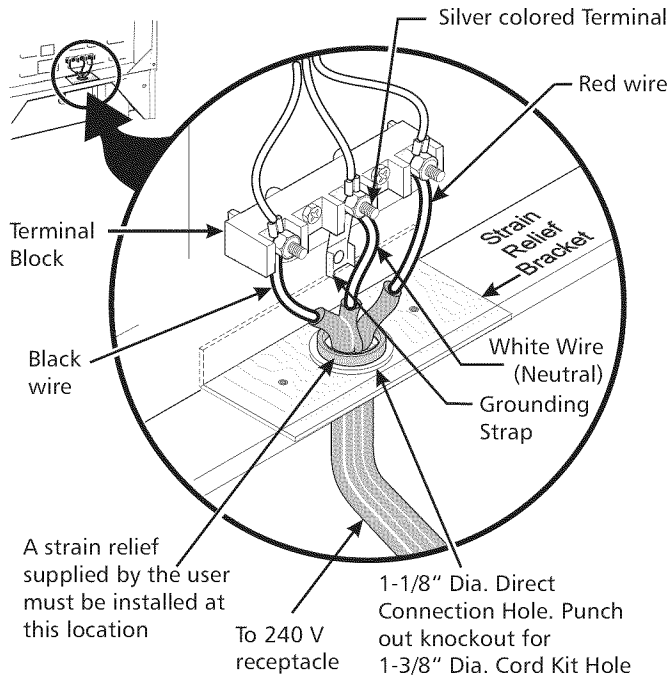

Figure 3
NOTE: Dual fuel Slide-in Range is shipped from factory with 1 1/8" dia. hole as shown on figure 3. If a larger hole is required, punch out the knockout.
⚠ WARNING Risk of fire or electrical shock exists if the incorrect amperage cord is used, the Installation Instructions are not followed, or the strain relief bracket is discarded (see Figure 3).
(The 3-conductor cord or cable must be replaced with a 4-conductor cord or cable where grounding through the neutral conductor is prohibited in new installations, mobile homes, recreational vehicles or in other areas where local codes do not permit neutral grounding) If local codes permit connection of the frame grounding conductor to the neutral wire of the copper power supply cord (see Figure 3):
4. Replace the 3 nuts on the terminal block. (See Figure 3)